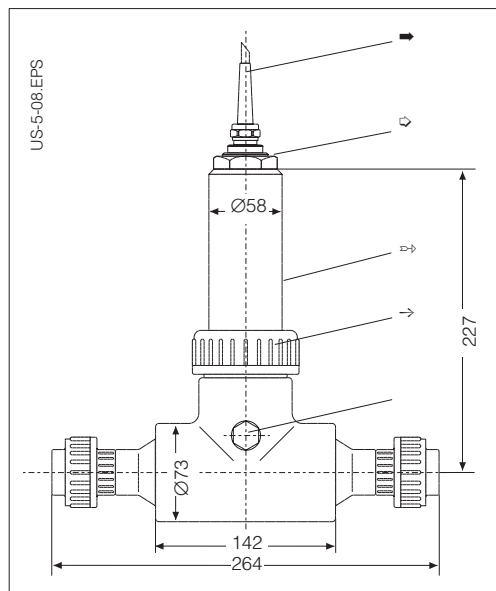

Fig. 3.3 CUA 250-A with screwed adhesive fitting DN 25
- Screw the spray head CUR 3-1 into the CUA 250 in place of the dummy plug (see fig. 3.3).